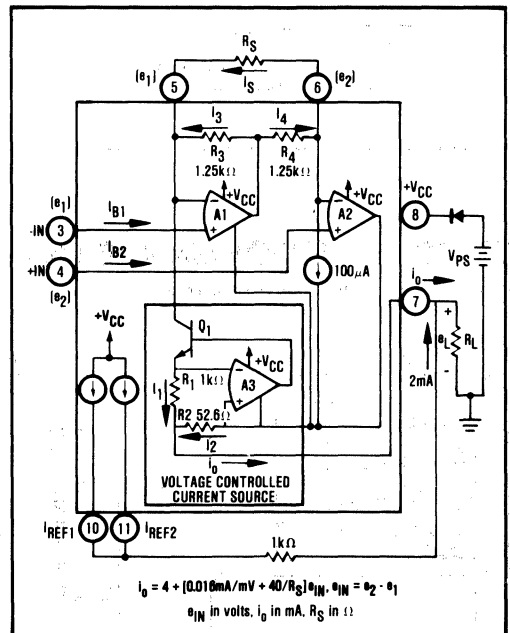

FIGURE 1. Simplified Schematic of the XTR100.
A simplified schematic of the XTR100 is shown in Figure 1. Basically the amplifiers, A_1 and A_2 , act as an instrumentation amplifier controlling a current source, A_3 and Q_1 . Operation is determined by an internal feedback loop. e_1 applied to pin 3 will also appear at pin 5 and similarly e_2 will appear at pin 6. Therefore the current in R_s , the span setting resistor, will be $I_s = (e_2 - e_1) / R_s = e_{IN} / R_s$. This current combines with the current, I_3 , to form I_1 . The circuit is configured such that I_2 is 19 times I_1 . From this point the derivation of the transfer function is straightforward but lengthy. The result is shown in Figure 1.
7. It is recommended that a reverse polarity protection diode (D_1 in Figure 1) be used. This will prevent damage to the XTR100 caused by momentary (e.g., transient) or long term application of the wrong polarity of voltage between pins 7 and 8.